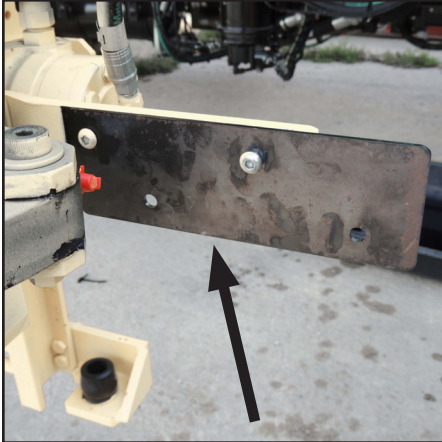

Figure 10
16. Install the new hose abrasion control bracket (P/N 1509942) on the mount (to the new hydraulic tube clamp bracket) using the existing screws (with a drop of blue Loctite® added to each screw) (Figure 10). Use a torque wrench to torque to 9 ft-lbs.